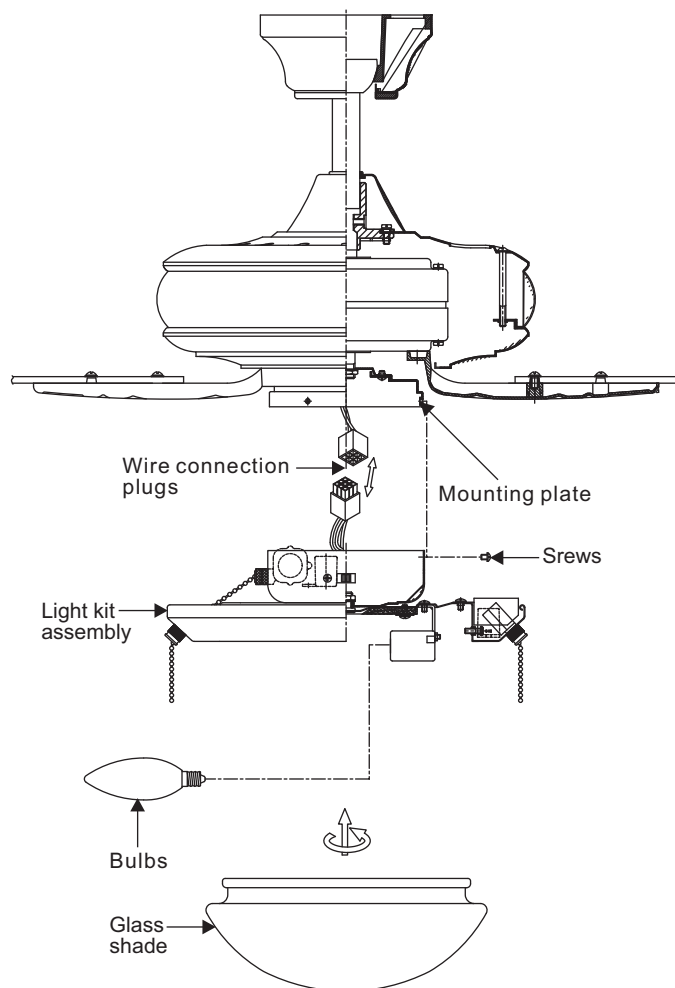

Figure 18
Step 1. While holding the light kit assembly under the fan, snap together the wire connection plugs. (Figure 18)
Step 2. Carefully push all wires back into the mounting plate. Install the light kit assembly onto the mounting plate with the mounting screws provided. Be sure to tighten all screws. (Figure 18)
Step 3. Install the two 60W candelabra bulbs (included). (Figure 18)
Step 4. Raise glass shade up against the light kit and secure it to fan by turning glass clockwise until snug. Do not overtighten. Restore power and your light kit is ready for operation. (Figure 18)